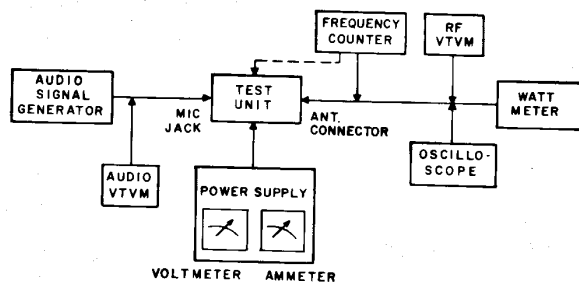

Figure 2 – Test Equipment Hook-Up
in the block diagram below, Figure 2. To activate the transmitter without using the microphone, use
- Adjust L106 for maximum reading on the RF wattmeter. See Figure 2.
(Note: — May be read on bench supply ammeter if used, see Figure 2)
- c. Adjust RV-102 to obtain 90% modulation, as observed on the scope, see Figure 2.